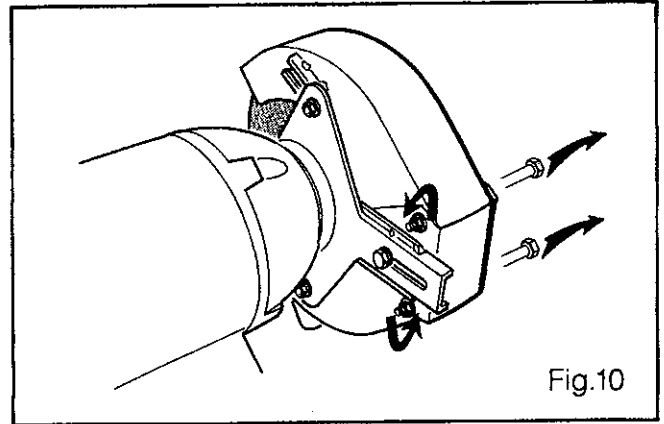

Fig.10
- 2 Take off 2 long bolts of the cover's connecting plate as figure 10.